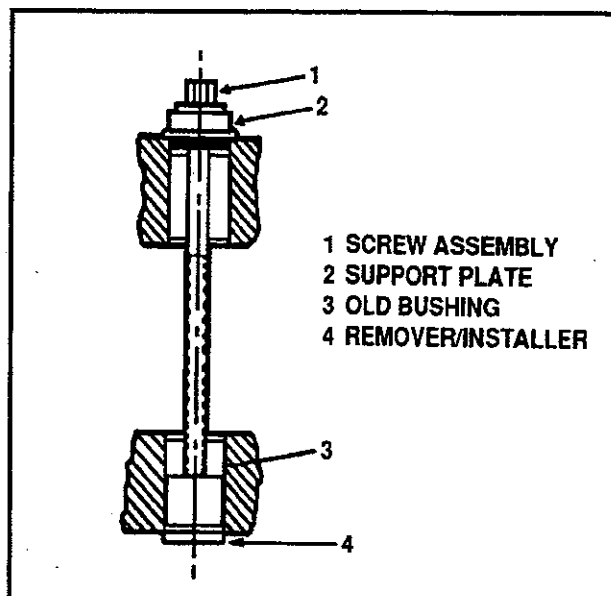

Figure 11—Installing Pre-sized Bushing
1. Assemble screw, support plate and installer with upper bushing. (See Figure 11—Installing Pre-sized Bushing.)